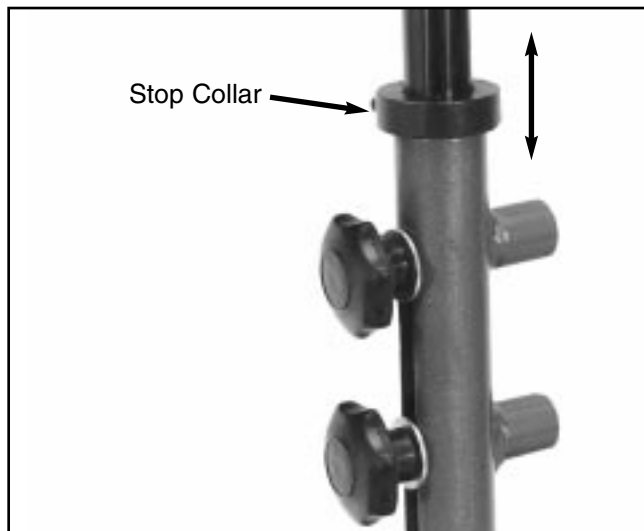

Figure 13. Length adjustment for upper arm.
2. Loosen the hand knobs on the pivot arm and raise or lower the upper assembly to increase or decrease the distance between the wheels. **See Figure 13.** You may need to loosen the stop collar to allow the necessary movement.